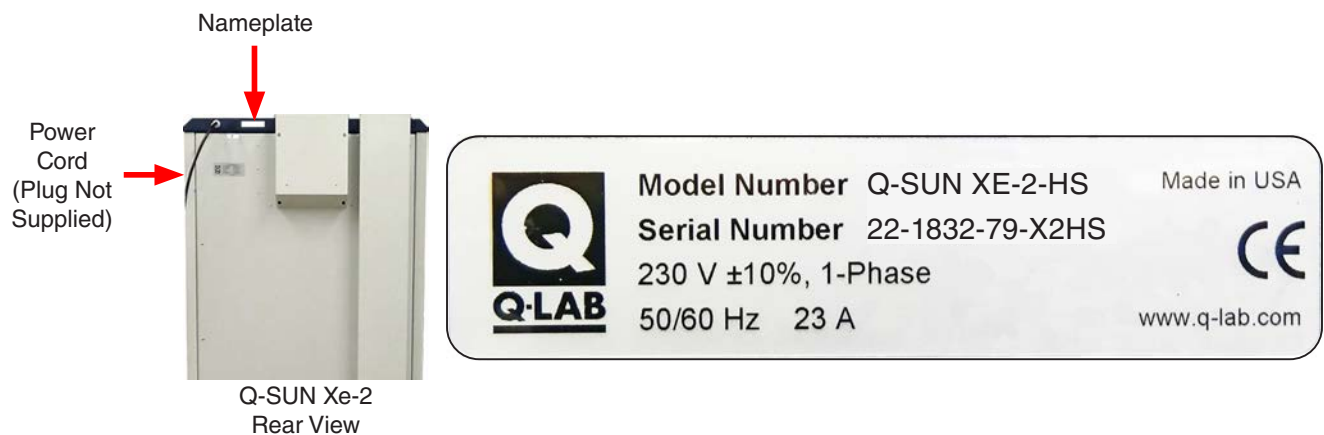

Figure 6.2b: Tester voltage and current shown on nameplate.
- The input voltage and current rating are shown on the nameplate at the rear of the tester (Figure 6.2b).